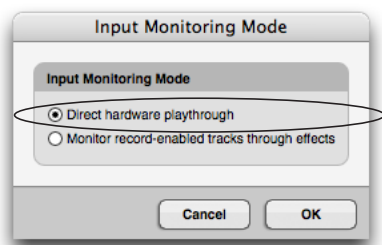

Figure 8-7: Enabling CueMix FX in AudioDesk or Digital Performer.
- 2 Choose the *Direct hardware playthrough* option, as shown below in Figure 8-7.